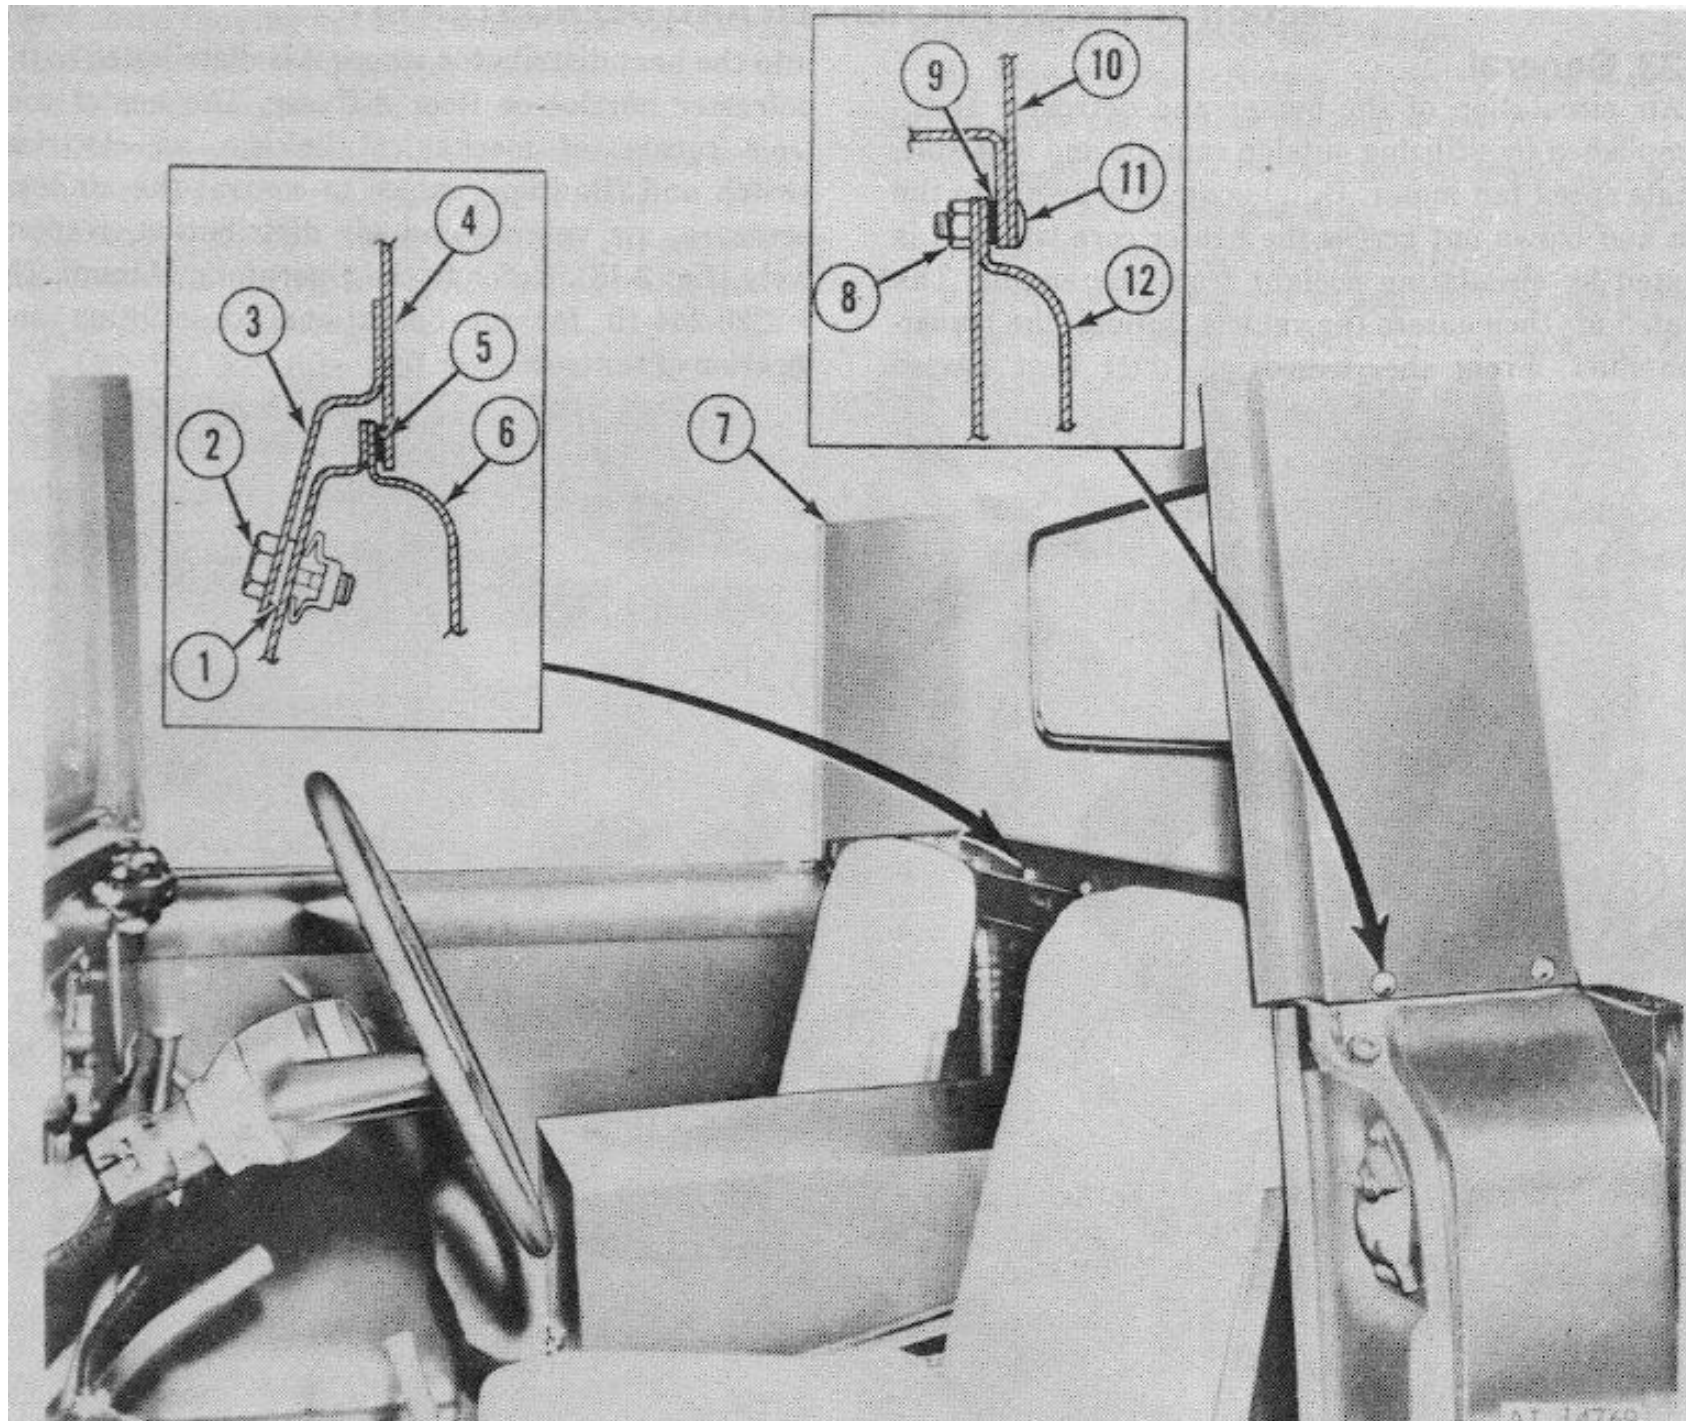

Figure 3-15. Back panel- installed.
- b. Install the back panel (fig 3-15).
- c. Install the seven attaching screws to the blind rivet nuts on the lower flange of the back panel. Tighten screws securely (fig 3-15).